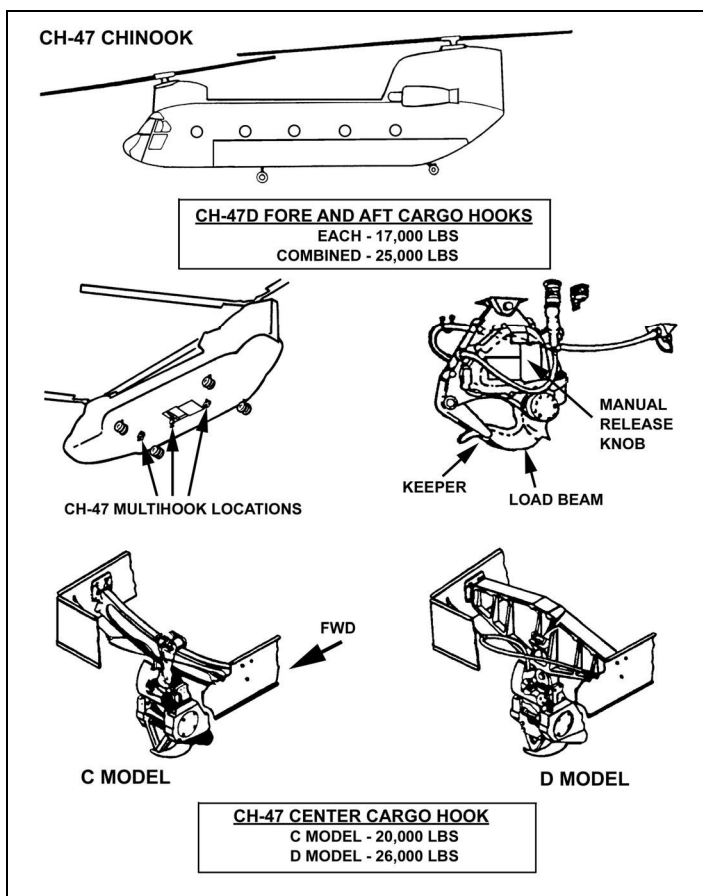

Figure 5-15. CH-47 Chinook and its cargo hooks.
(3) CH-47C/D Chinooks-20,000 or 26,000 pounds. See Figure 5-15, page 5-14.